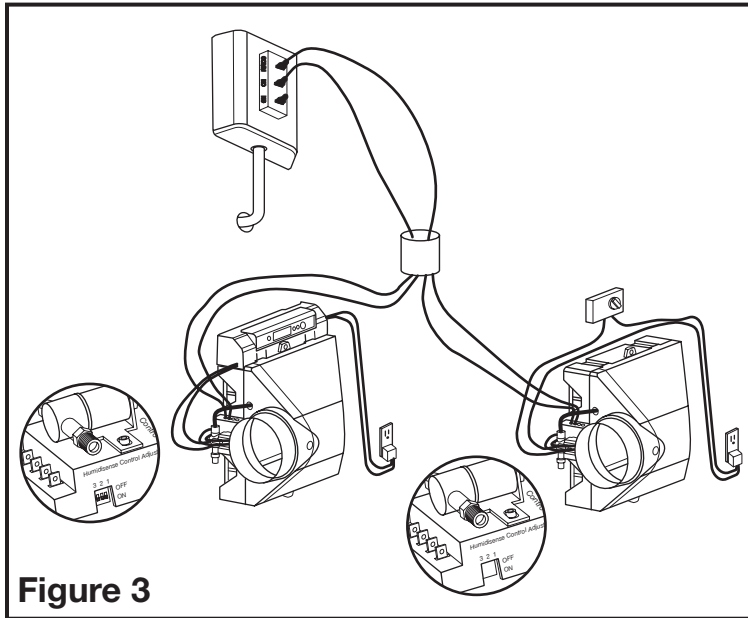

Figure 3
**EXTERNAL SWITCH - AIR PRESSURE SWITCH** (Cycles humidifier whenever furnace fan runs and humidistat calls for humidity) (Figure 3).